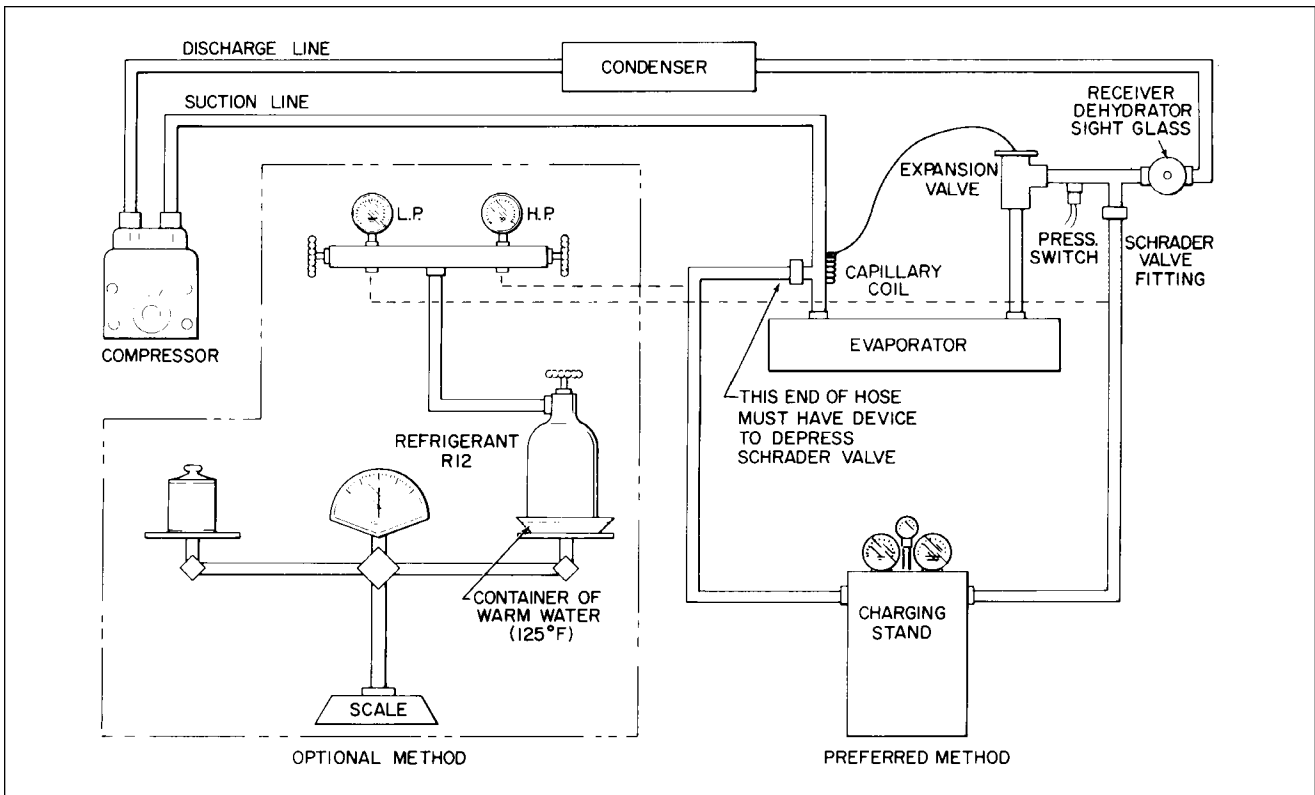

Figure 21-11. Charging Hookup
1. With the system discharged and evacuated, proceed to hook-up the charging stand. (Refer to Figure 21-11.)
1. With the system evacuated as outlined in Evacuating the System, connect the refrigerant charging hose to the manifold (refer to Figure 21-11) and purge the charging hose of air.
2. Connect a charging hose to a refrigerant cylinder and also to the Schrader valve fitting on the suction line. (Refer to Figure 21-11.)